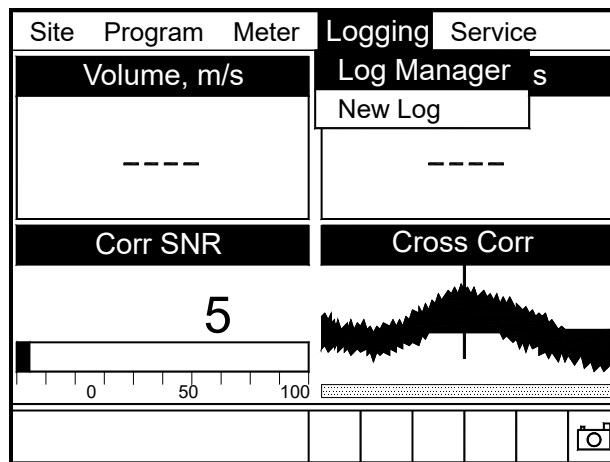

Figure 71: Logging Menu
To enter the Logging Menu, press the **[MENU]** key at the lower right of the CTF878 keypad. The Main Menu replaces the Status Bar at the top of the screen. Use the **[▶]** arrow key to scroll to the Logging Menu. At the Logging Menu, press **[ENTER]**. The screen appears similar to Figure 71 below. Refer to the *Logging Menu Map*, Figure 88 on page 76.
- by scrolling to the New Log option in the Logging Menu (as shown in Figure 71 on page 63) and pressing **[ENTER]**, or